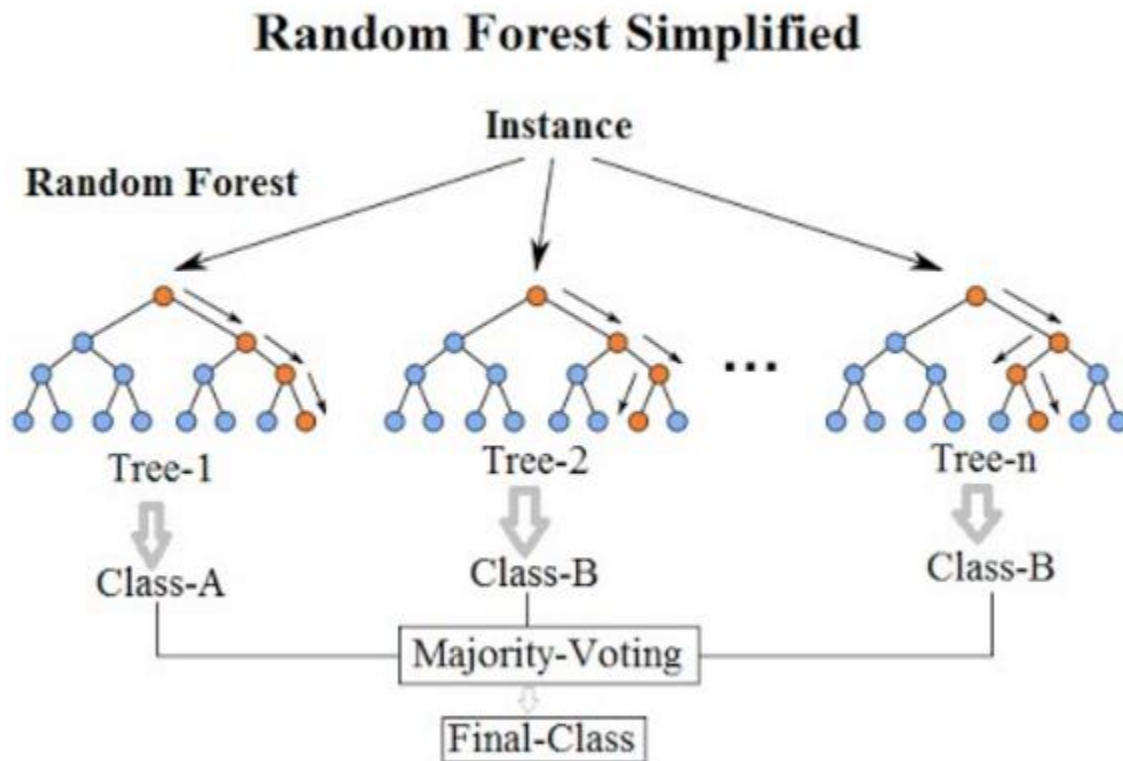

Figure 1: simplified version of random forest classification, showing Class-B as the correct answer for the RFC algorithm.
Random Forest Classifier (RFC) was the Machine Learning (ML) algorithm which was used for the backend of the application. RFC is a collection of decision trees, each of which generates a predictive answer. A decision tree is a collection of random inequalities generated by the computer. As Figure 1 depicts, each tree is fed the information from the dataset and passes through each of the inequalities. If the inequality is true it goes to the left branch while it is false it goes down the right branch. For example, in Figure 1 the first decision in all trees is false since it goes down the right branch of each tree.
As Figure 1 shows, RFC creates, manages, and manipulates multiple decision trees to mathematically compute the impact of different independent variables on the dependent variable. RFC allows for the user to modify how many trees appear in the model, which can have a positive or negative influence on the model accuracy. Each tree generates a predictive classification based on the random decisions from the inequalities. The predictive answer which occurs the most will be the answer generated by the random forest. As Figure 1 shows, Class-B will be the correct answer predicted by the RFC because it occurs 2 times while Class-A only occurs once.